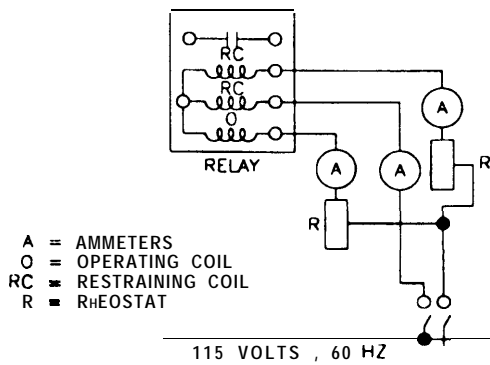

Figure 11-3. Typical test connections for a differential relay
*b. Differential relays.* Figure 11-3 shows a typical test connection for a percentage differential type. Check the minimum operating values at zero restraining current and the operating points at several values of restraint. The slope (differential characteristic) and, where applicable, the harmonic restraint feature should also be checked. It may be desirable to trip all circuit breakers from differential relays as a regular testing procedure.